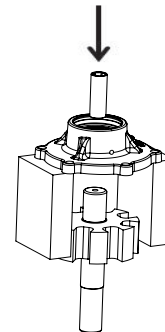

Figure 3
- a) Place the cover in press support fixture with rotor down as shown in Figure 3.